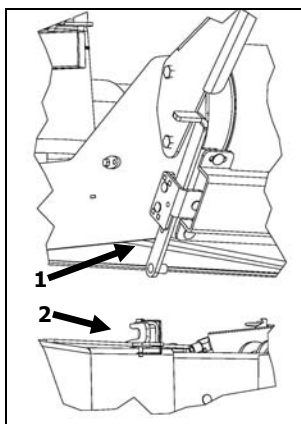

Figure 2.1 Attaching the turntable
Also attach the turntable's (Figure 2.1) L-shaped latch (1). Rotate the table as needed so that the latch faces the notch (2) at the front of the frame. Remove the latch pin. Slide the latch toward the notch and insert the latch shaft. Place the pin in the hole of the notch.
At start-up, your bale wrapper must be placed in the most horizontal position possible. Detach the turntable's L-shaped latch (Figure 2.1). If you have the stabilizer option, start the machine and pull the 2 levers of the control to put them in place. If the film roll is in place, check if the edge of the plastic is properly held by the clamp of the film cutter. If not, tighten the clamp around the plastic film by pulling the lever.